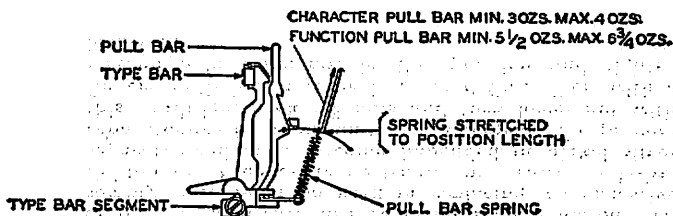

Fig. 8
3.14 **Pull-Bar Springs:** Tension of character pull-bar springs shall be Min. 3 ozs., Max. 4 ozs. and tension of function pull-bar springs shall be Min. 5-1/2 ozs., Max. 6-3/4 ozs. Fig. 8